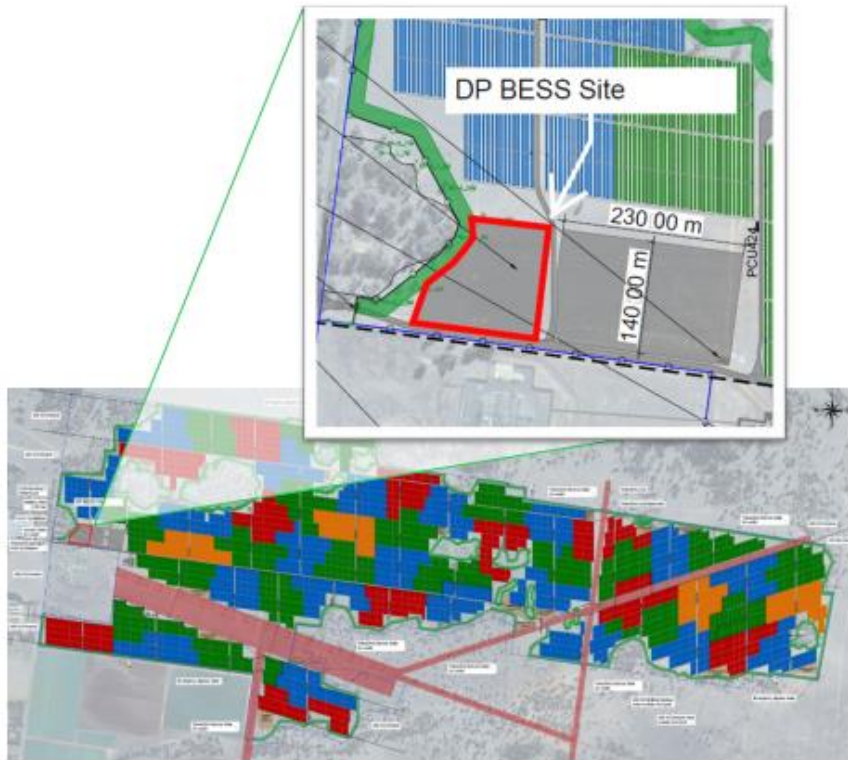

Figure 2: Inset Map Lot 1 DP1249830 - Stage 2a, Stage 2b of the Project (excluding Stage 2b(ii)). Source: SSD-8392-MOD-2 Modification Report 2022
- Stage 2a – Site Preparation for the BESS (see Figure 2 and Figure 3);
- Stage 2b (i) – BESS Mechanical and Electrical Installation (see Figure 2, Figure 3 and Figure 6);
- Stage 2b (iii) – BESS connections to battery components (see Figure 2 and Figure 3);